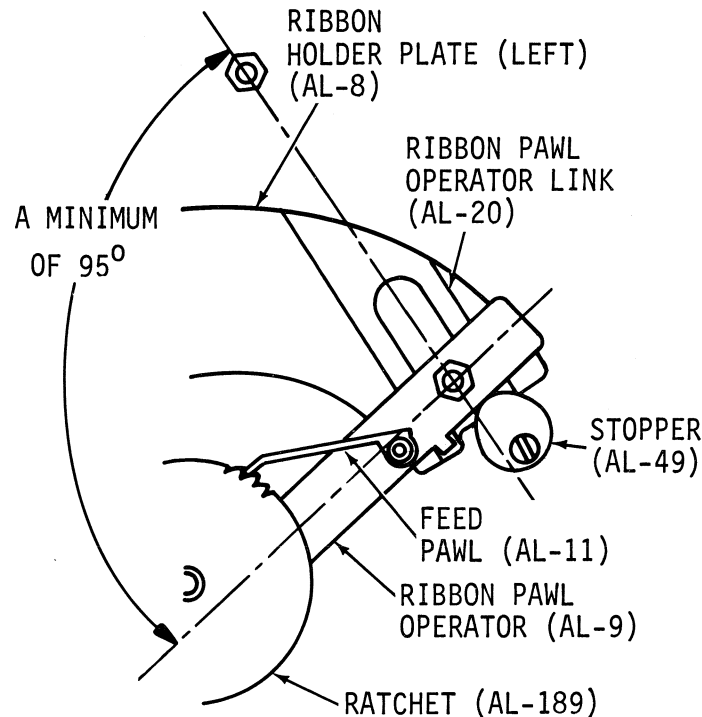

Figure 5-13. STOPPER ADJUSTMENT (AL-49), RIBBON MECHANISM (TOP VIEW)
- (b) With carriage resting at extreme left position, maintain a starting angle of more than 95 degrees minimum (See Fig. 5-13) between ribbon pawl operator link (L) (AL-20) and ribbon pawl operator (L) (AL-9).